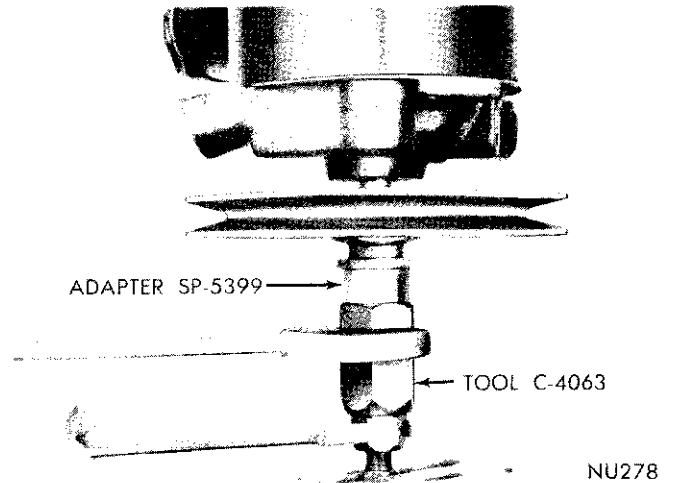

Fig. 32—Pulley Installation
- (8) Install drive pulley. See "Pulley Installation". (Fig. 32).
- (9) With installer shaft clamped securely in vise, tighten drive nut against thrust bearing and press pulley onto shaft.
- (10) Install pump and adjust belt as outlined under "Cooling" Group 7.
(16) Place reservoir on pump body and visually align mounting bolt hole. Tap reservoir down on pump with plastic hammer.
(17) Remove pump from vise and install mounting brackets with three mounting bolts, tighten to 18 foot-pounds.
(18) Install drive pulley. See "Pulley Installation" (Fig. 32).
Pumps installed on eight cylinder engines have drive pulleys pressed flush with the end of the pump shaft. With drive pulley placed on end of shaft, securely thread installer Tool C-4063, with adapter SP-5399, into 3/8 inch threaded hole in end of shaft (Fig. 32).